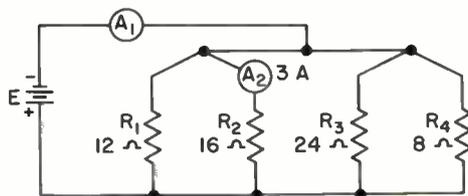

Fig. 8
5. The voltage applied to R_2 in Fig. 8 (*is*) (*isn't*) the battery voltage. The current through R_2 is _____ amperes, and the resistance of R_2 is _____ ohms. Using Ohm's law, then, the battery voltage must be _____ volts.
Example 1 . . . Find the voltage (E) of the battery and the reading of the ammeter (A_1) in Fig. 8.